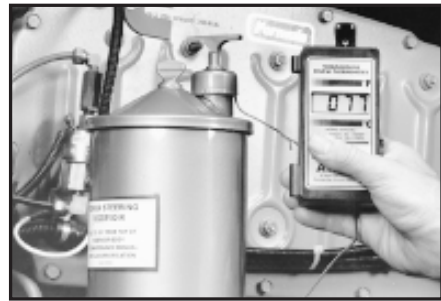

Figure 7.1
1. Install temperature gauge in reservoir. *Figure 7.1.* Install PSSA in pressure line with shut-off valve fully open. *Figure 7.2.*